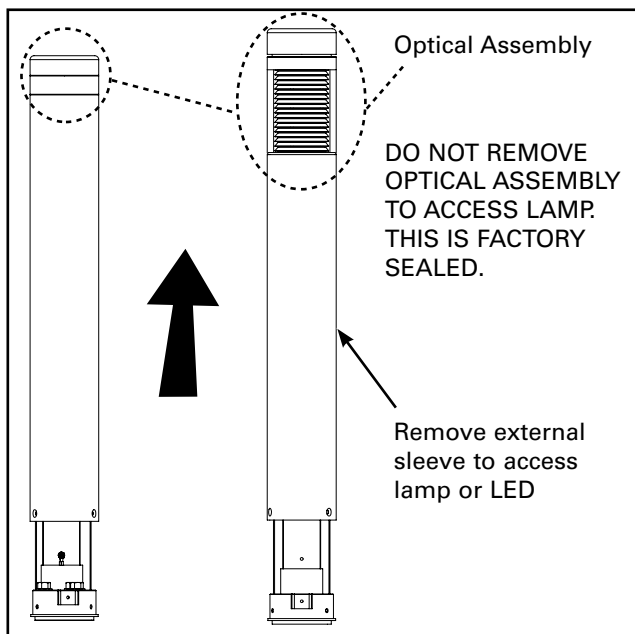

Figure 8.
2. Remove external sleeve from base by removing three screws and placing in a safe location (Figure 8).